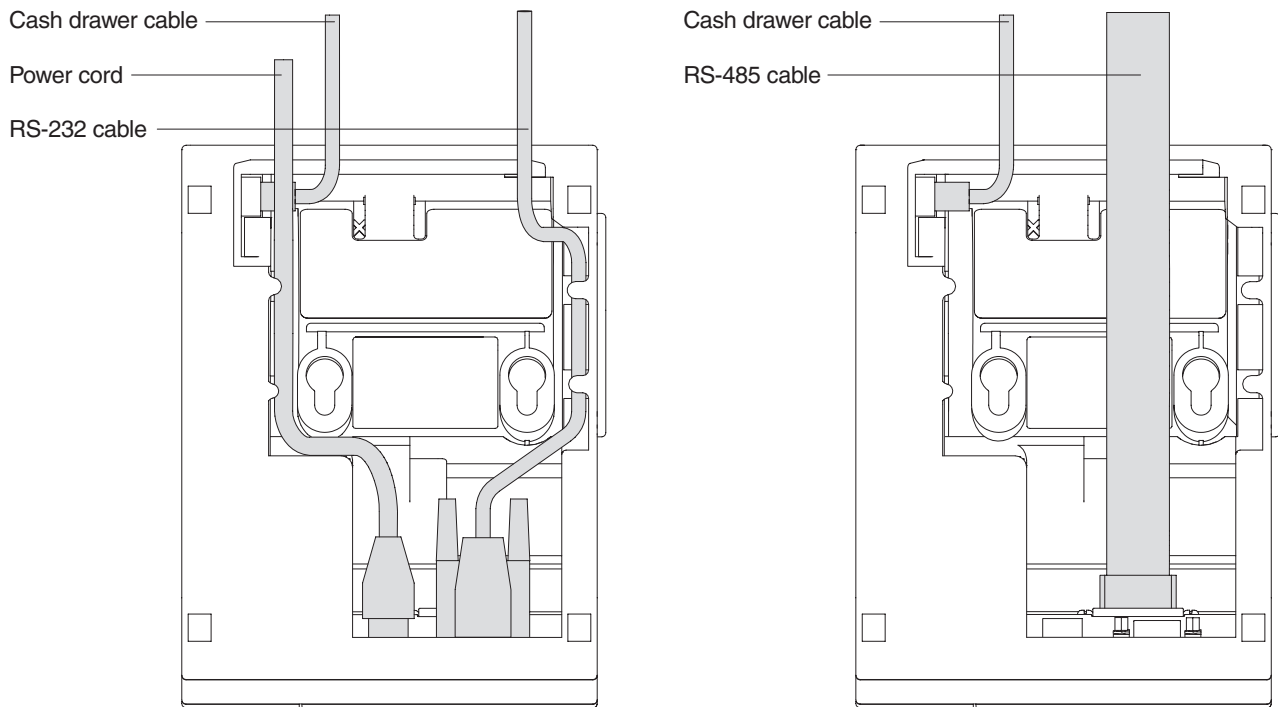

Figure 7. RS-232 and RS-485 Cable Routing for Single-Station SureMark Printers
5. For single-station printers, route any power cord and cables as shown in Figure 7 on page 14.